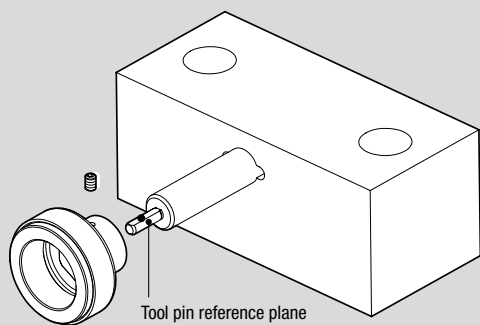

Fig. 1 - Reference surface for the pin device
3. Place the magnet on the AT152 device with the fixing dowel placed on the reference surface of the "D" pin (fig. 1).